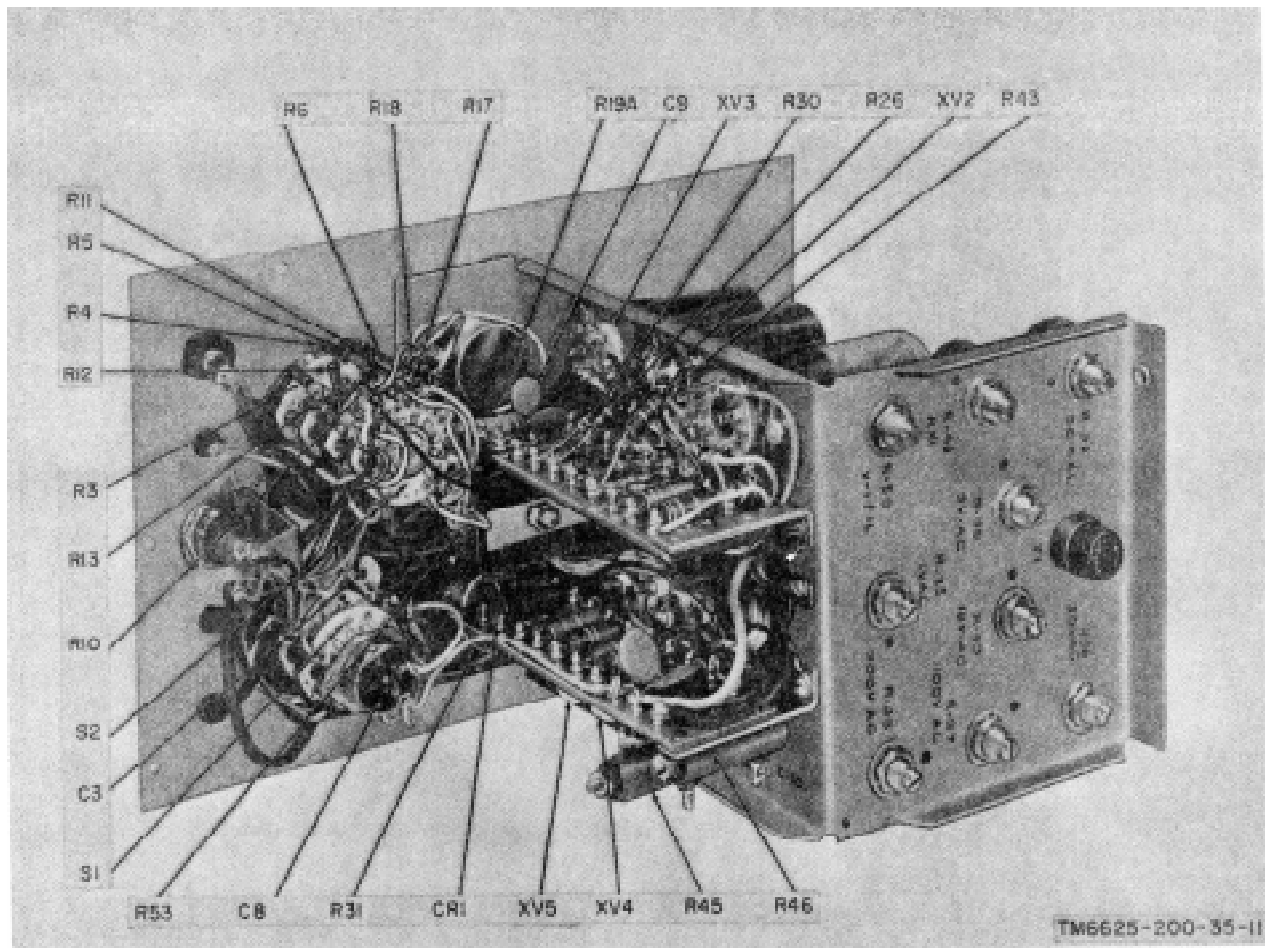

Figure 6-2. Multimeter ME-26B/U, ME-26C/U, and ME-26D/U chassis, bottom view.
e. Resistor R20 or R25 open.	e. Replace defective resistors (fig. 6-2 and 6-4, or 6-9 and 6-11)
f. Resistor R41, R43, R44, R45, or R46 open.	f. Replace defective resistor (fig. 6-2 and 6-4, or 6-9 and 6-11).
g. Resistor R19A, R26, or R30 open.	g. Replace defective resistor (fig. 6-2 or 6-4 and 6-5).
k. FUNCTION switch S1 (SELECTOR switch on ME-26A/U) defective.	k. Replace switch S1 (fig. 6-2 or 6-4).
l. RANGE switch S2 defective.	l. Replace switch S2 (fig. 6-2 or 6-4)
d. Resistor R19A, R20, R25, R27, or R29 open.	d. Replace defective resistor (fig. 6-2 and 6-4, or 6-9 and 6-11).